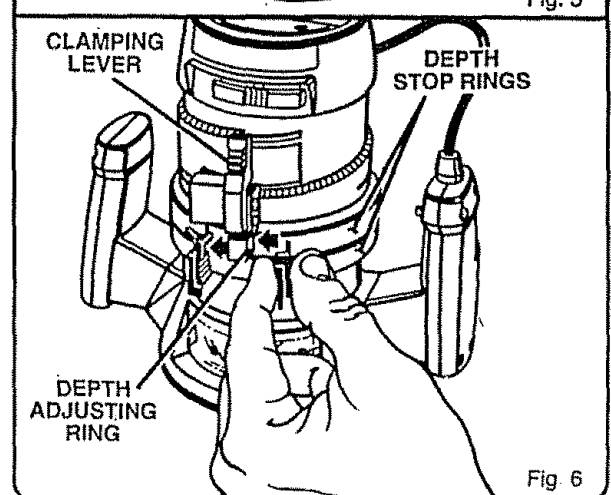

Fig. 6
2. Using depth adjusting ring, set cutter at lowest desired depth of cut. Lock clamping lever. Position bottom depth stop ring against depth adjusting ring. Hold depth stop ring against depth adjusting ring and lock. See *Figure 6*. Note: Depth stop ring ends snap together to lock.
3. Unlock clamping lever and move depth adjusting ring to set cutter at second desired depth of cut. Lock clamping lever. Position top depth stop ring against depth adjusting ring. Hold depth stop ring against depth adjusting ring and lock. See *Figure 6*. Note: Depth stop ring ends snap together to lock.